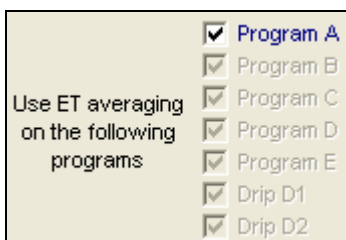

Figure 16.4.9B
- Now check each box that you want to **Use ET averaging on the following programs** (Figure 16.4.9B).